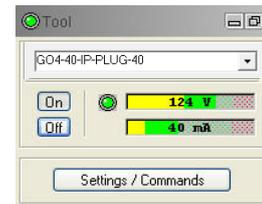

Figure 4-1 Tool panel
2. Select the relevant ELOG/IP tool from the drop down list (**Figure 4-1**) in the software's **Tool** panel (if your tool is not listed check that your tool configuration file is stored in the designated folder on your computer).
4. On the **Tool** panel (**Figure 4-1**) click the **Settings / Commands** button to configure your tool for the ELOG and/or IP modes (see chapter **3.4** for details).